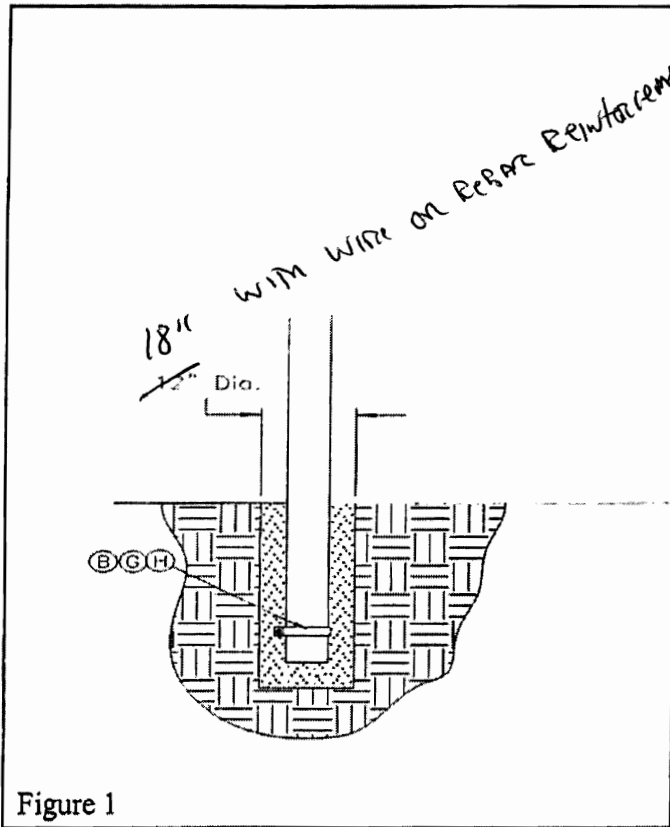

Figure 1
3. Mix concrete according to the directions on the bag. It is advantageous to have the mixture "wet". This will increase your working time and allow batches to mix in the hole. Pour the hole full to ground level. Attach 5 9/16" Band Clamp (B) with 5/16" X 2" Carriage Bolt (G), and 5/16" Flange Nut (H) to bottom end of pole and insert pole into concrete while vibrating concrete to allow it to surround the pole completely. The pole height from the ground to the bottom of the bend should be 9' 6" *TMS height.* (See Figures 1 and 3). **Note: If you are installing the PR78 system with the BA407U 54"x 42" polycarbonate backboard your pole height from the ground to the bottom of the bend should be 9' 6 1/2".**